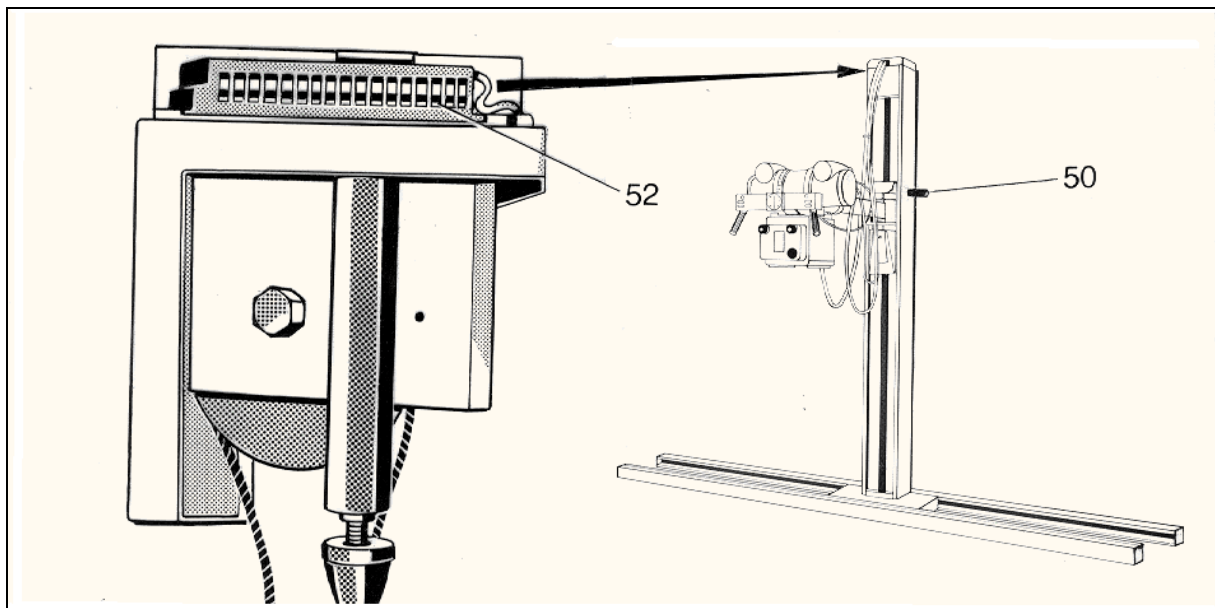

Fig. 34
B To exchange a pulley of vertical carriage follow the instructions below: Drive weight box all up to the top. Remove plastic from lateral walls of stand. Introduce round steel (supplied with installation material)(Fig. 34/item 50).
Lower weight box until it stops at round steel (item 50). Dismount tube assembly from tube support arm. Remove cap from column top and disconnect leads from terminal strip (Fig.34/item 52). Lift vertical carriage by 400 mm. Take off screws of column top (Fig. 34/item 53) and remove top. Drive up vertical carriage and loosen cable from brake pivot. Now the vertical carriage can be pulled all the way out. Replace bearings (rollers). To drive in vertical carriage again, reinstall cable and pull upward until it stops to loosen brake for driving in. Mount head part with guide pulley again. Lift vertical carriage by a few cms and instantaneously loosen brake by pulling cable upward. Slowly lower carriage until it hangs at the cable. Clamp cable and install cap. Mount tube-collimator assembly to tube support arm. Remove round steel and install plastic cap.
lateral walls Drive weight box up to the top. Remove plastic caps from of stand. Introduce round steel (supplied with installation material)(Fig. 34/item 50). Drive weight box until it stops at round steel. Lift vertical carriage by a few cms. Release: Vertical carriage must hold by itself. Lift vertical carriage again and instantaneously loosen safety brake by pulling at rope. Then slowly lower vertical carriage until cable is tight.